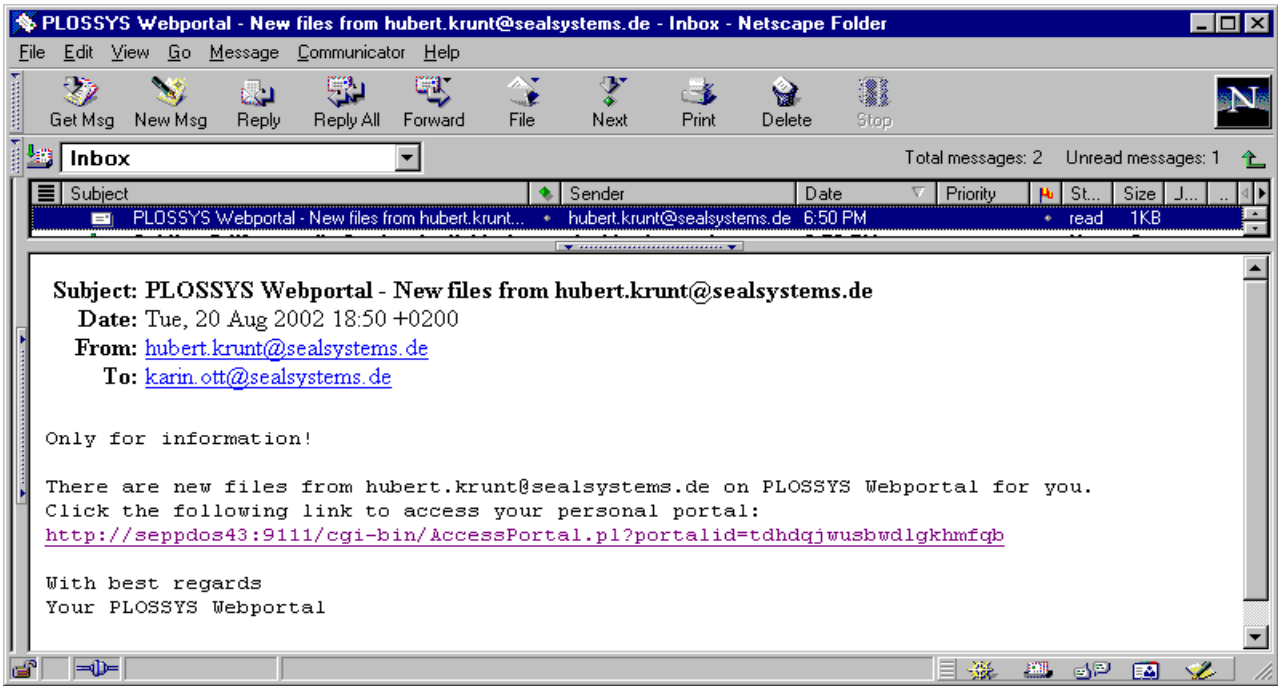

Figure 2-2. E-mail With Access to a Web portal
8. An **e-mail** is sent to the **recipient**, see Figure 2-2, page 8.